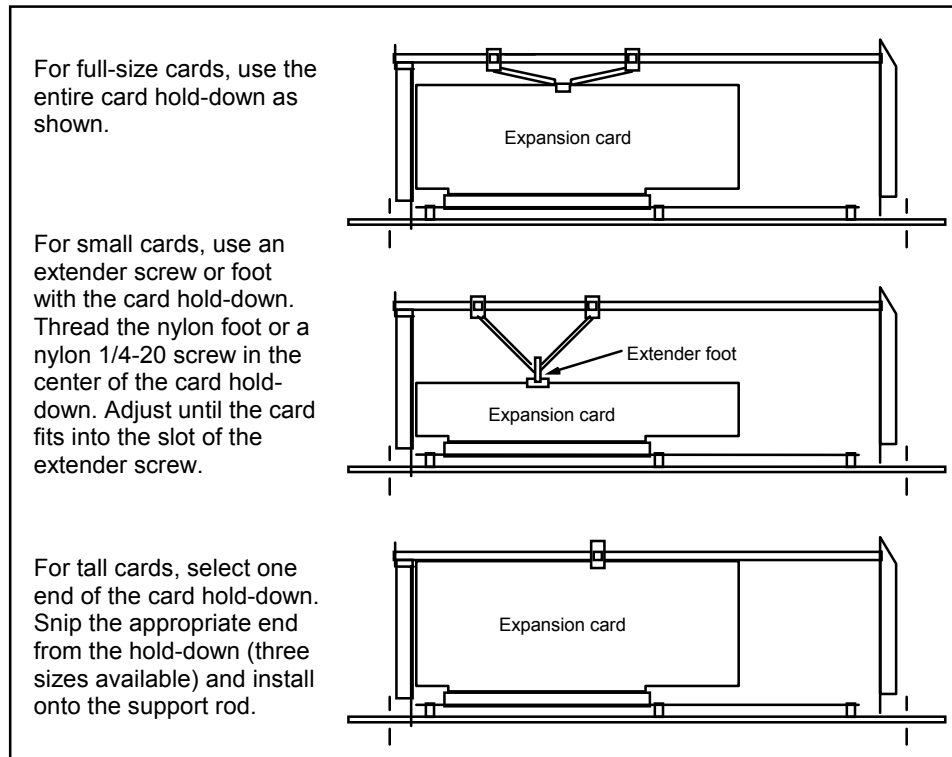

Figure 5
- 1) Configure any jumpers and DIP switches on the card as indicated by the card manufacturer. See Figure 5 to determine which card hold-down(s) to use.